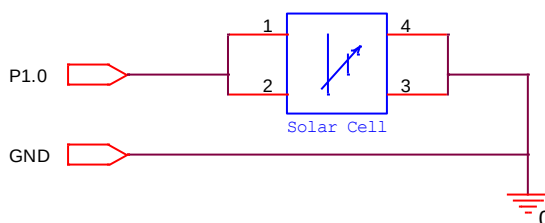

Fig. 3.2.1.a. Input module
- the module's schematics is presented in Fig. 3.2.1.a.